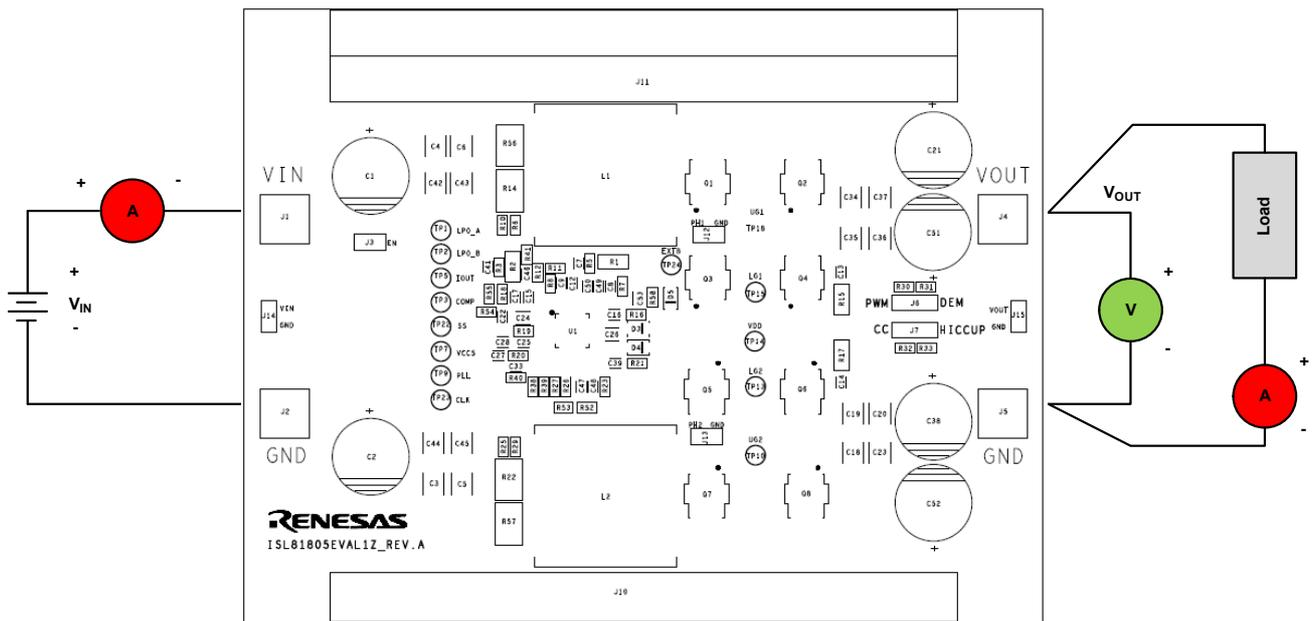

Figure 3. Proper Test Setup
As shown in Figure 3, 9V to 36V  $V_{IN}$  is supplied to J1 (+) and J2 (-). The regulated 48V output on J4 (+) and J5 (-) can supply up to 5A to the load. Because of the high-power efficiency, the evaluation board can run at 5A continuously without airflow at ambient room temperature conditions.
1. Jumper J6 provides the option to select PWM or DEM. Jumper J7 provides the option to select a constant current limit or HICCUP. See Table 2 for the operating options. Ensure that the circuit is correctly connected to the supply and electronic loads before applying any power. See Figure 3 for the proper setup.